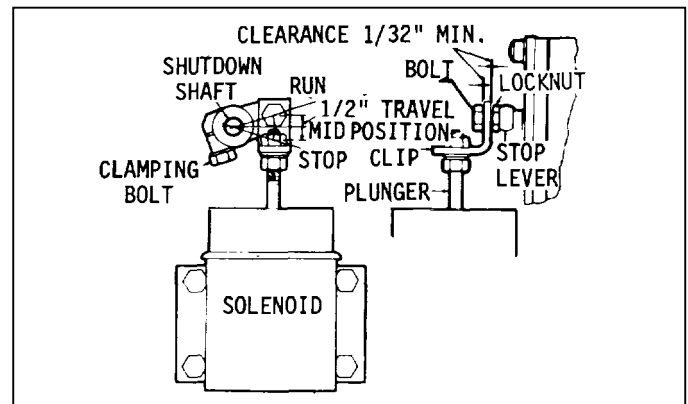

Fig. 14
- (1) Remove the bolt connecting the right angle clip to the stop lever (Fig. 14). Align and clamp the lever to the shutdown shaft in such a way that, at its mid-travel position, it is perpendicular to the solenoid plunger. This assures that the linkage will travel as straight as possible. The solenoid plunger has available 1/2" travel which is more than adequate to move the injector control racks from the full-fuel to the complete no-fuel position and shut down will occur prior to attaining complete travel,.
- (2) With the stop lever in the run position, adjust the rod end eye or right angle clip for minimum engagement on the solenoid plunger when the connecting bolt is installed. The oversize hole in the eye or clip will there- by permit the solenoid to start closing the air gap, with a resultant build-up of pull-in force prior to initiating stop lever movement.
- (3) The bolt through the rod end eye or the right angle clip should be locked to the stop lever and adjusted to a height that will permit the eye or clip to float vertically. The clearance above and below the eye or clip and the bolt head should be approximately 1/32" minimum.